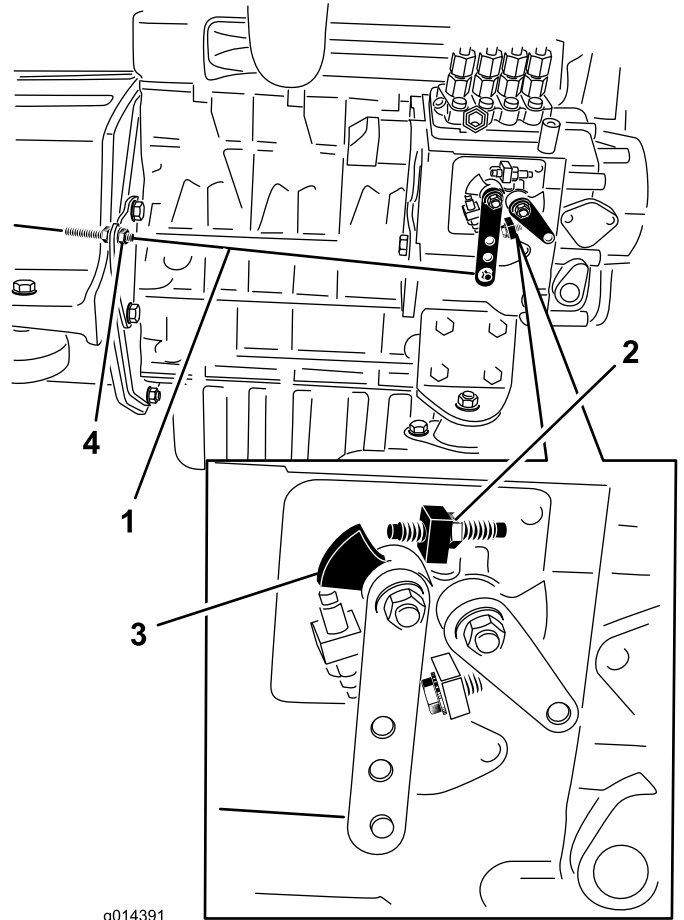

Figure 46
- Check the position of the speed control lever on the engine fuel injection pump. The speed control lever should be contacting the high speed screw when the throttle control lever is in the FAST (detent) position (Figure 46).
- If necessary, the position of the throttle control cable jam nuts can be adjusted until speed control lever contacts high speed screw when throttle control lever is at FAST (detent) position (Figure 46).